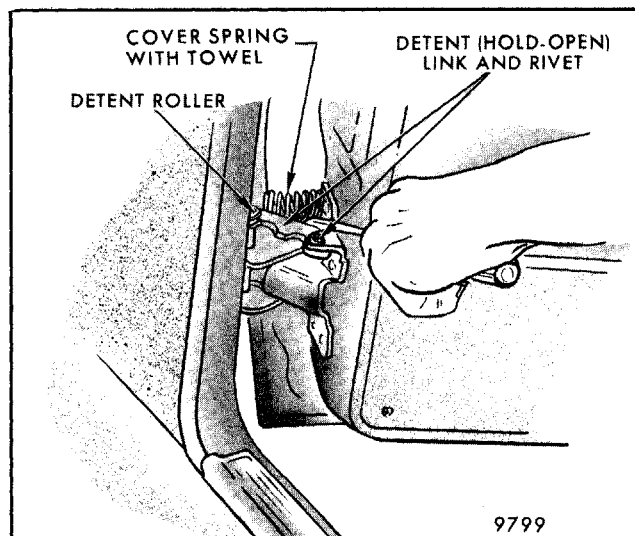

Fig. 5-95-Front Door Hinge Hold-Open Spring Removal - X Styles
2. Disengage door hold-open spring from lower hinge assembly by prying upward against spring with a suitable prying tool (Fig. 5-95). Use care not to damage hold-open link.